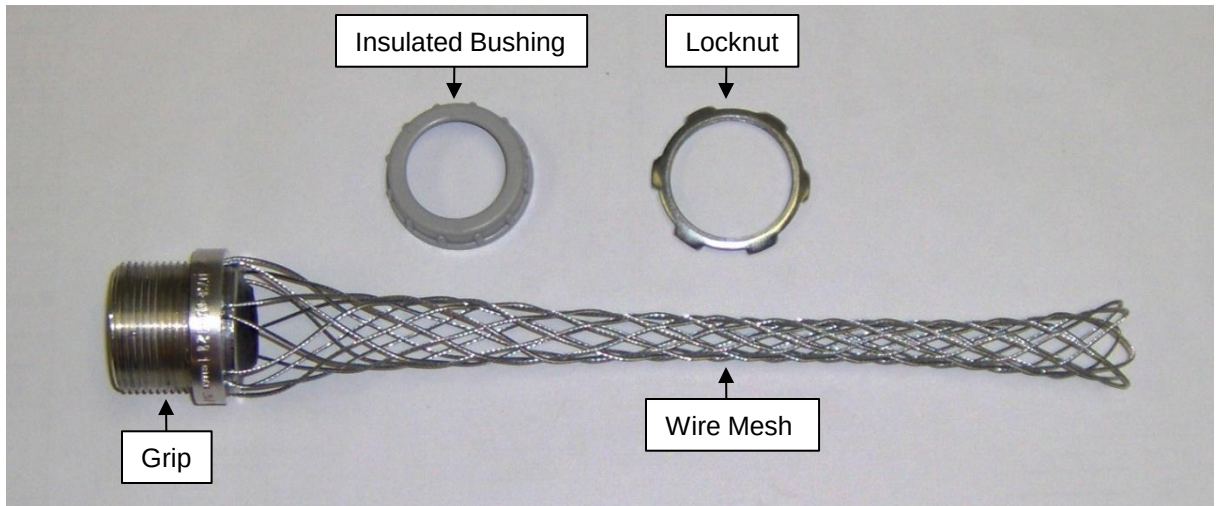

Figure 1
5.1 **See Fig. 1** for a typical Dust-Tight Kellems Grip layout.